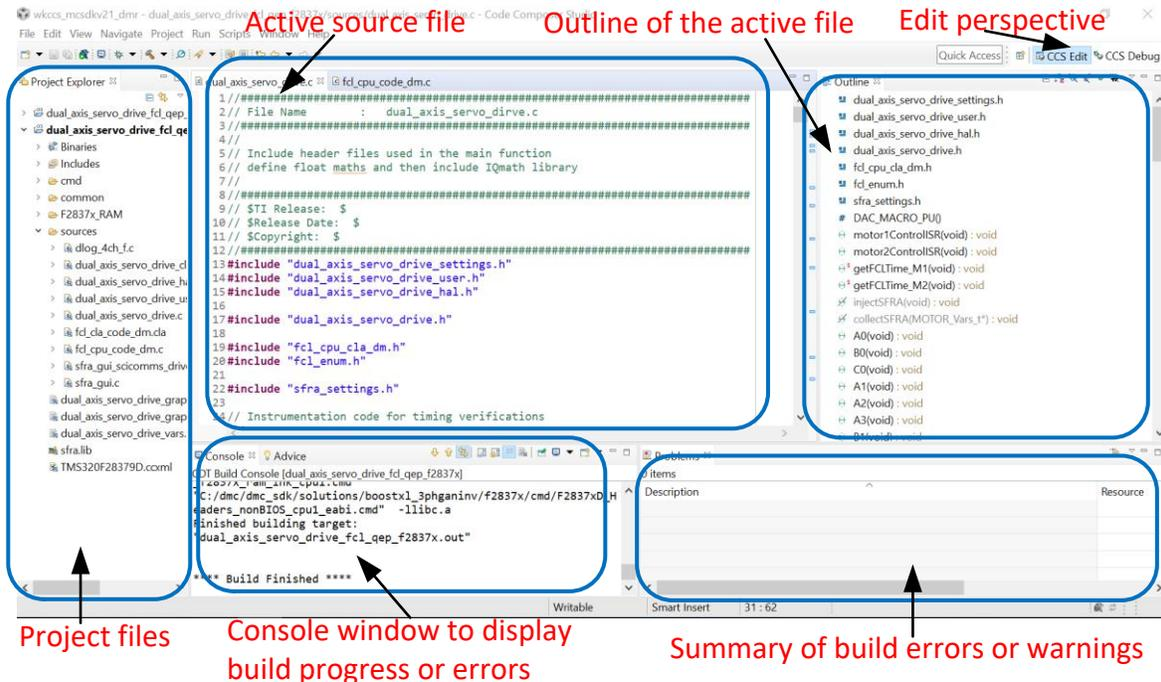
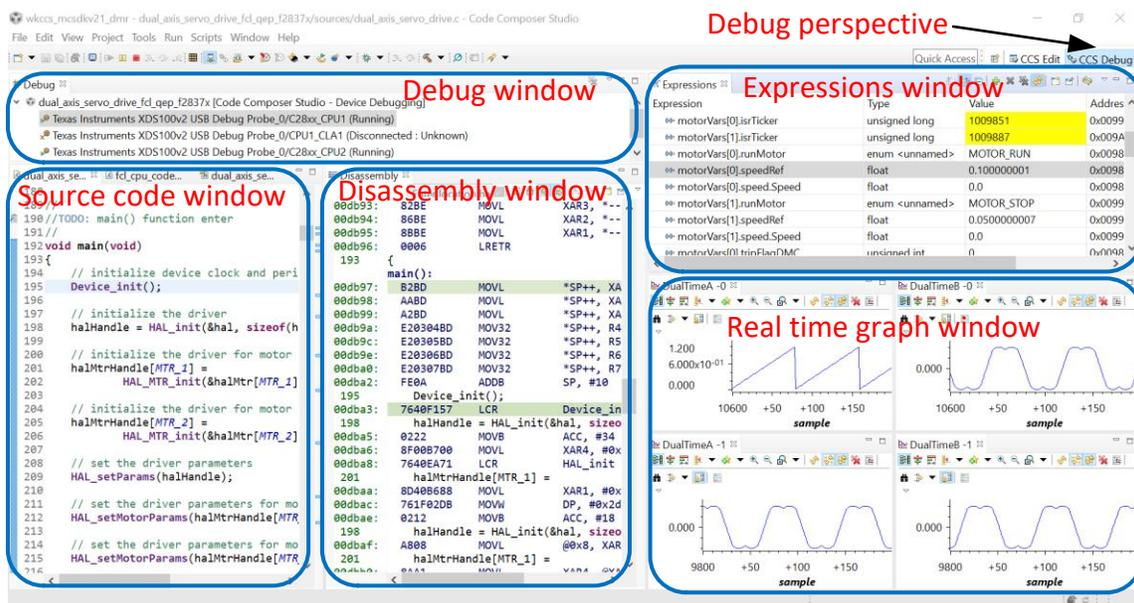

Figure 16. CCS IDE Showing Edit Perspective
Figure 17. CCS IDE Showing Debug Perspective
3. The project should now run, and the values in the graphs and expressions window should continuously update. Figure 16 and Figure 17 are some screen captures of typical CCS perspectives while using this project. You may want to resize the windows according to your preference. At this time, details of variables and graph are not discussed as they will be discussed in later sections